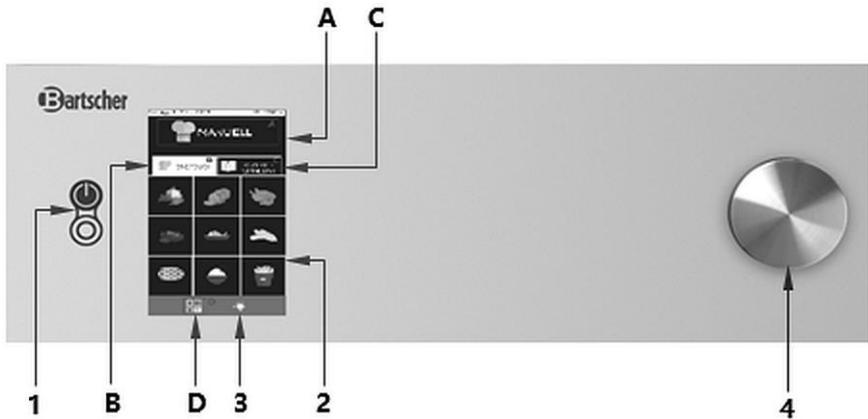

Fig. 7
Switch the appliance on with ON/OFF key (1, Fig. 7).
- The internal lighting is switched on by pressing respective key (3, Fig. 7), and then switches off automatically after 45 seconds unless it is switched off earlier by pressing the same key again.
1. Switch the appliance on with ON/OFF key (1, Fig. 7) on the control panel. After connecting the appliance to the power supply it is in standby mode.
The control panel is equipped with the rotary control knob (4, Fig. 7). Rotate the rotary control knob to set the required parameters and press it to confirm the set values.
1. Switch the appliance on with the ON/OFF key (1, Fig. 7).
1. **Touch** the relevant field to change thermal processing parameters, e.g., temperature and **rotate** the rotary control knob (4, Fig. 7), until the required temperature setting is selected.
2. To confirm the change, press the parameter or rotary control knob (4, Fig. 7) again.
From the HOME screen page, by pressing the 'Manual' control field (A, Fig. 7), you access the setting screen of thermal processing parameters.